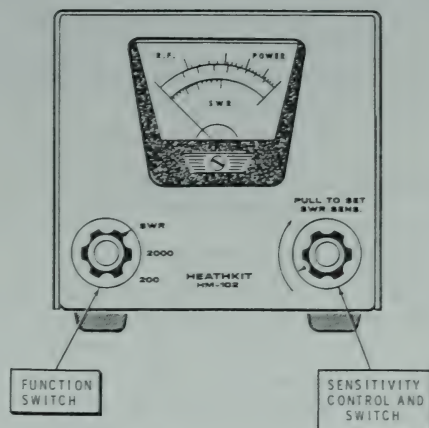

Figure 2
- 4.() Set the FUNCTION switch to 200. (See Figure 2.)